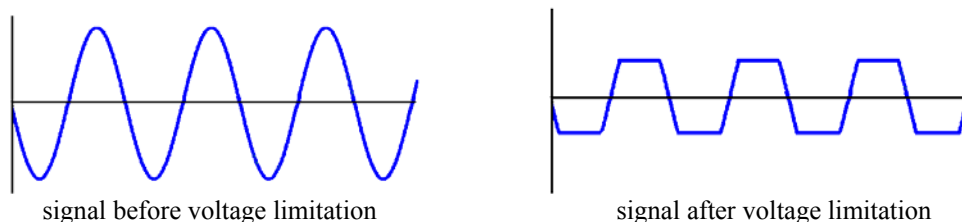

Figure B-4
*limiters:* The purpose of a voltage limiter is to prevent the voltage in a circuit from exceeding a certain level. These circuits are also called “*clippers*” because they clip the voltage signal off at a given level as shown in figure B-4. When you performed the triangular wave sweep of the 1N4148 diode, you should have observed that the voltage across the diode remained near 0.7 volts when it was on. We can take advantage of this effect to build a circuit that permits small voltages to pass without distortion, but clips any voltage outside the range of about -0.7 to 0.7 volts.